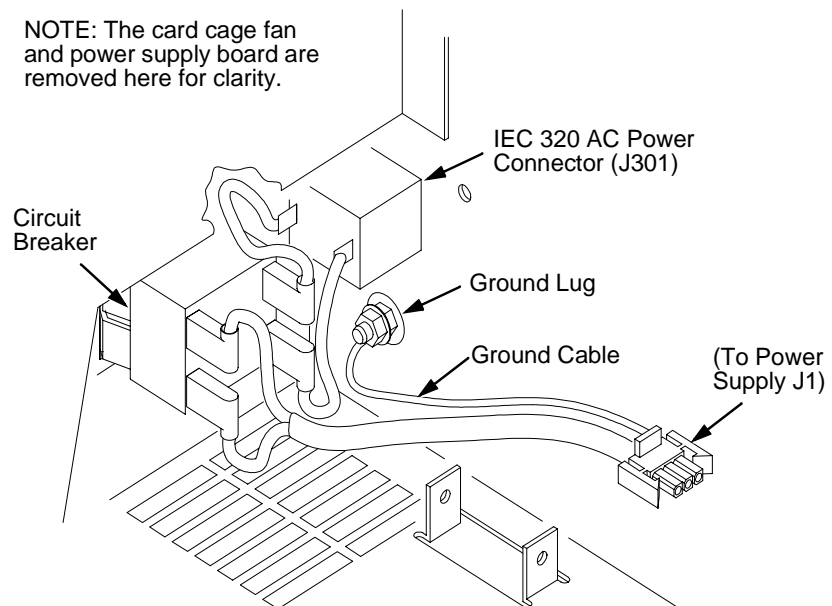

Figure 56. Circuit Breaker Ground, Cabinet Models
3. Make sure the ground cable from the circuit breaker power leads is undamaged and firmly attached to the ground lug on the wall of the card cage, as shown in Figure 56.